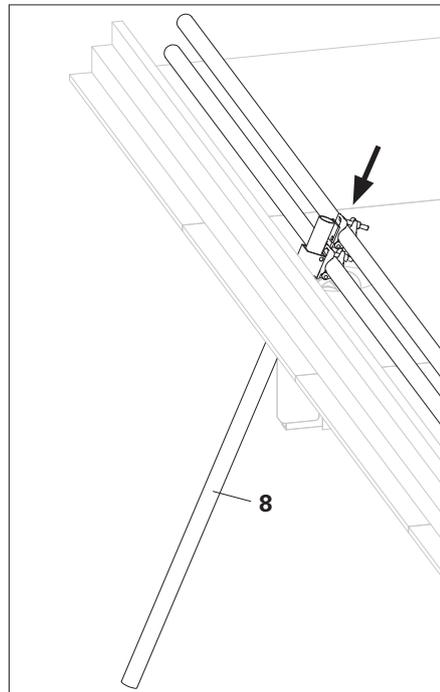

Fig. A2.20.2
From a safe position, lift Guardrail Post STP (8) and lower at an angle through the openings in the Crane Eye Adaptors. (Fig. A2.20.2)